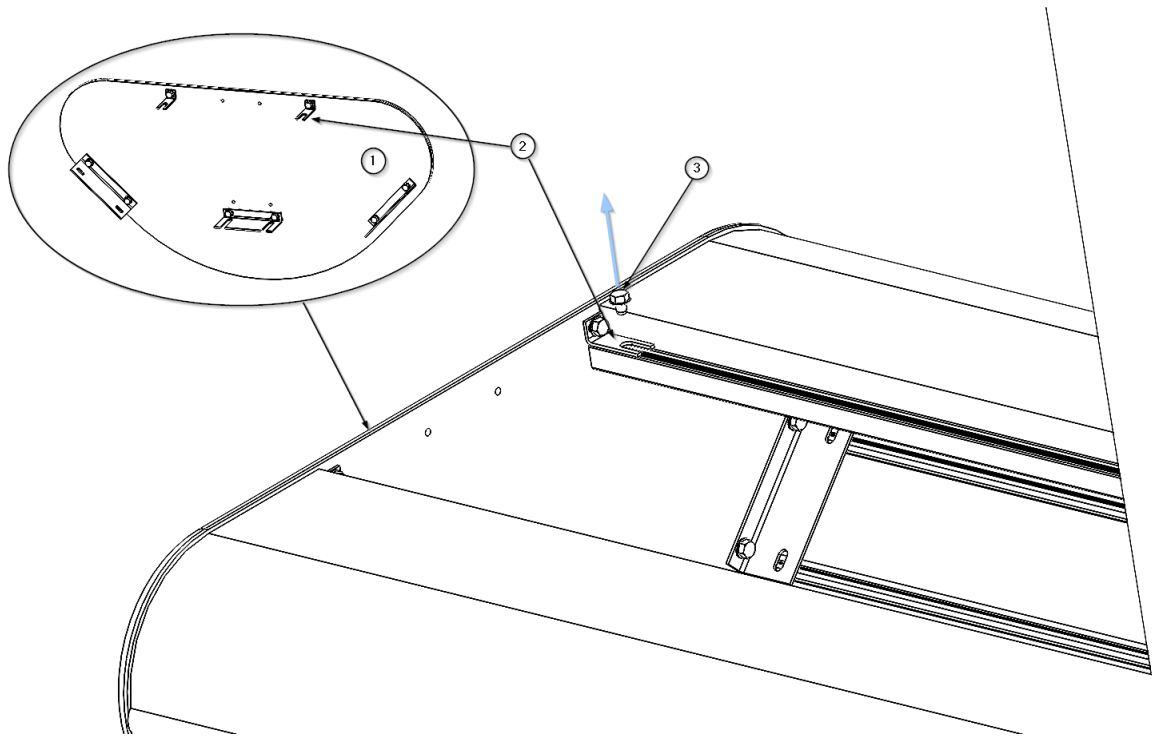
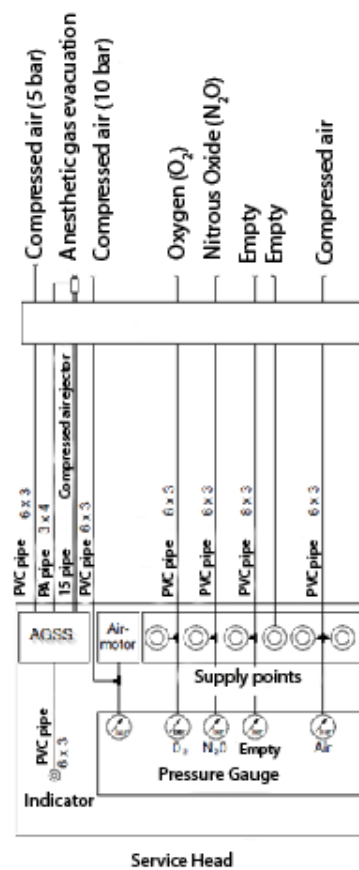

Fig. 9 Disassembly/assembly of end caps on ATLAS main body
Fig. 13 Example of connection of gas lines and anaesthesia gas evacuation systems
- Using a hexagonal tool, remove the 8 M4 x 6 screws (3) securing the 5 side flanges (2) of the side wall (1), as shown in figure 9.
- Carefully remove the side panel (1) and place it in a safe place.
- First attach the end cap (1) by supporting the side tabs (2) in the threaded slots of the main body and secure it with the 8 M4 x 6 screws (3).
- Check that the side wall (1) is properly fixed.
Inside each suspended head section (main body) there are spacers (1), M8 x 80mm threaded bolts (2), M8 hex nuts (3), S10 lock washers (4) and platens (5), which are required for fastening to the downpipes. See figure 13.